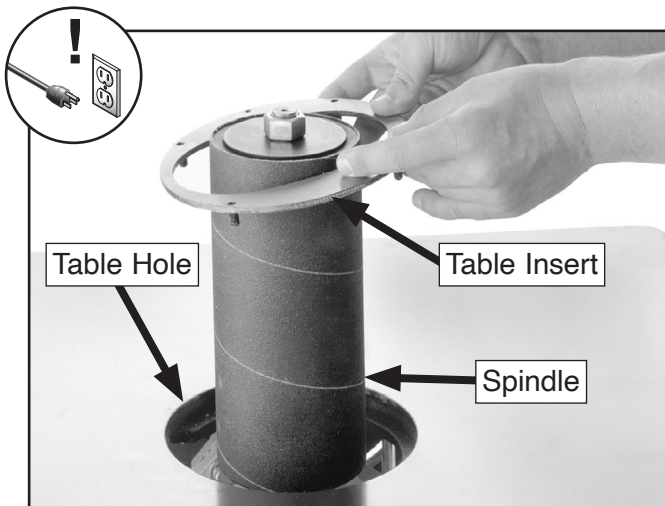

Figure 31. Installing table insert.
3. Install insert over mounted spindle and into hole in table, as shown in **Figure 31**.